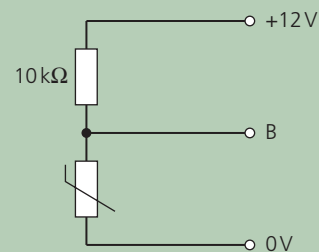

Figure Q4
4. A temperature sensor input subsystem is shown in Figure Q4.
- a. The thermistor in Figure Q4 has a resistance of  $45\text{ k}\Omega$  at  $0^\circ\text{C}$ ,  $20\text{ k}\Omega$  at  $25^\circ\text{C}$  and  $1\text{ k}\Omega$  at  $100^\circ\text{C}$ . Calculate the output voltage at B at a temperature of  $25^\circ\text{C}$ .